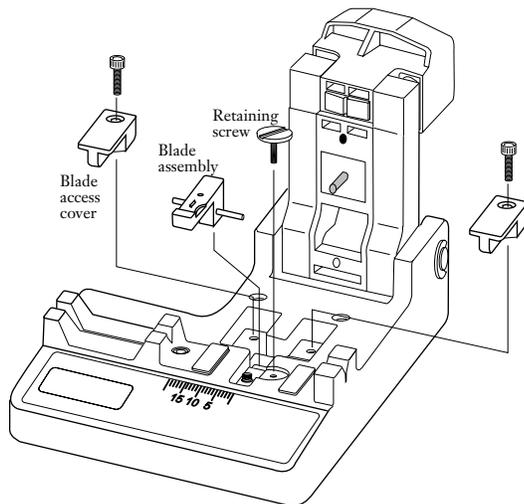

Figure 11
- Use a slotted screwdriver to remove the slotted screw which serves as a blade retainer (Figure 11).